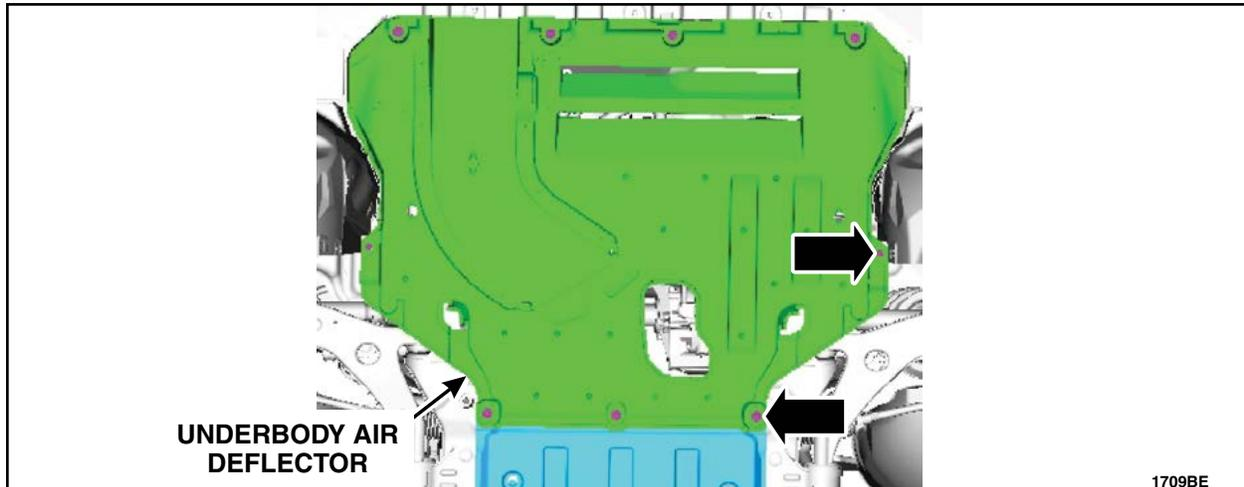

**FIGURE A4**
- If the hole is not centered, please carry out the powertrain assembly mount neutralizing when instructed in Procedure C. See Figure A4.